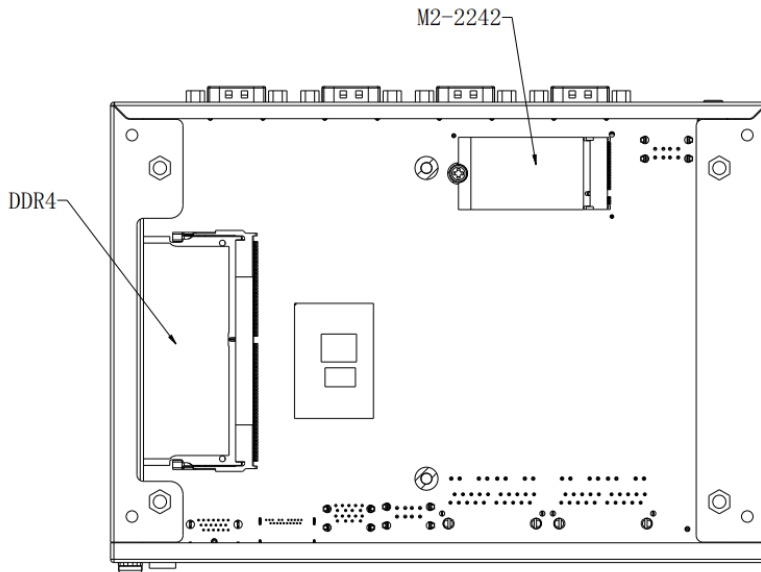

Figure 3.2-1
M.2 2242 module: remove 1 pan-head M3x3 screw as shown in Figure 3.2-1.